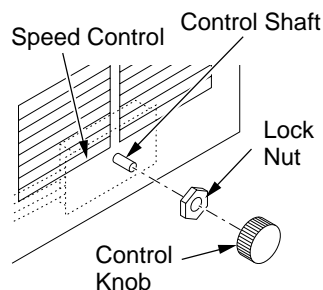

Figure 3 - Attaching Speed Control
7. Place speed control against inner wall of front panel, pushing the plastic control shaft forward through the opening (see Figure 3).
8. While supporting speed control, secure control shaft with lock nut by pushing and turning lock nut with pliers clockwise until it is tight against front panel. Place control knob provided on shaft (see Figure 3).